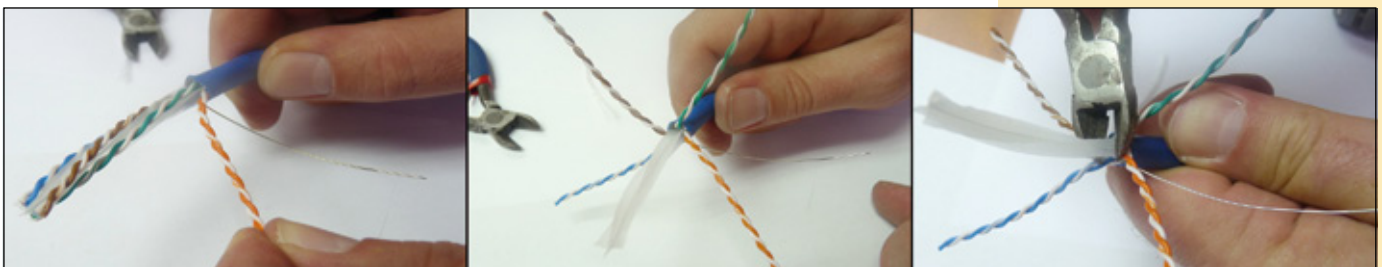

Figure 7
- 6 Please separate the copper conductor pairs and cut the plastic separator as shown in Figure 7.